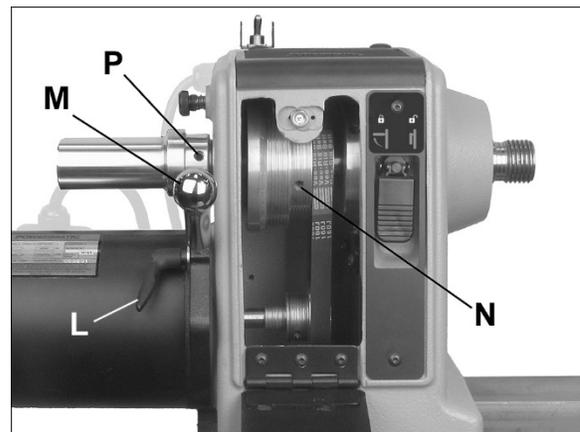

Figure 8-9: sheave/belt alignment
3. Loosen pivot lock handle (L, Figure 8-9) and lift tension handle (M, Figure 8-9) to raise motor. Tighten pivot lock handle (L, Figure 8-9) to hold motor in raised position.
5. Loosen pivot lock handle (L, Figure 8-9) and lower motor to tension belt. Be sure that V-grooves of belt seat properly in corresponding grooves of sheave. Do not overtension; a very light pressure on the tension handle (M) is adequate to prevent belt slippage.
6. Tighten pivot lock handle (L).
1. The motor and spindle sheaves are aligned by the manufacturer, but if any service is performed that affects their alignment it is very important that they be realigned. To realign them, loosen two set screws on spindle sheave (one is shown at N, Figure 8-9) with a hex key, and nudge spindle sheave into proper position. Retighten both set screws.
2. Loosen lock handle (L, Figure 8-9) and lift handle (M) to raise motor.
3. Tighten lock handle (L) to hold motor in raised position. Slip belt off lower pulley.
4. Loosen two set screws on handwheel (P, Figure 8-9) with a 3mm hex wrench and unscrew handwheel off spindle (NOTE: Left-hand threads; rotate clockwise to loosen).
6. If replacing sheave, loosen two set screws (N, Figure 8-9), and slide sheave off spindle. Install new sheave, *loosely* securing the two set screws at first. Make sure the sheave is oriented properly.
9. Reinstall handwheel and tighten set screws (P, Figure 8-9).
10. Align new sheave (see *sect. 8.9*) then tighten two set screws (N, Figure 8-9) securely on sheave.
11. Loosen lock handle (L) and allow motor to lower. Do not over-tension; a very light pressure on tension handle (M) is adequate to prevent belt slippage.
12. Tighten lock handle (L).